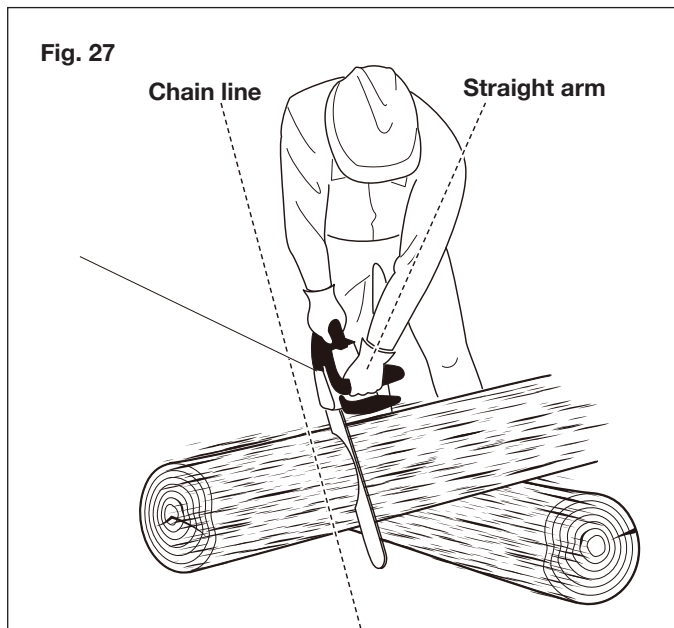

Fig. 27
- Keep your left arm and elbow locked in a "straight arm" position to withstand any kickback force (Fig. 27).